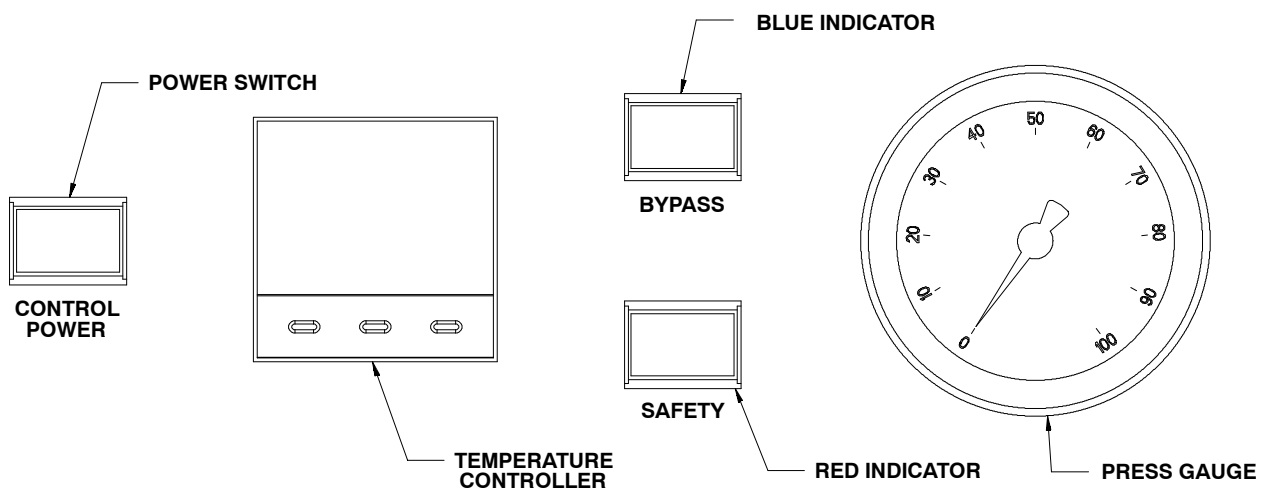

FIGURE 3. CONTROL PANEL
(see Figure 3)
2. **CONTROL POWER SWITCH/LIGHT** (see Figure 3)
3. **BYPASS LIGHT (BLUE)** (see Figure 3)
4. **SAFETY LIGHT (RED)** (see Figure 3)
5. **HIGH-PRESSURE SAFETY** (see Figure 3)